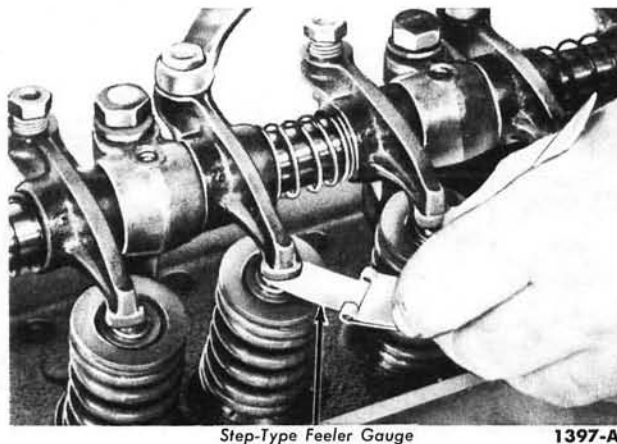

FIG. 21—Valve Lash Adjustment
4. Using a step-type feeler gauge ("go" and "no go"), adjust the intake and exhaust valve lash for No. 1 cylinder (Fig. 21). The preliminary (cold) intake and exhaust valve lash should be set at 0.019 inch.
Operate the engine for a minimum of 30 minutes at approximately 1200 rpm to stabilize engine temperatures. With the engine idling, check the valve lash. Adjust the lash if necessary (Fig. 21). The final (hot) intake and exhaust valve lash should be 0.019 inch.